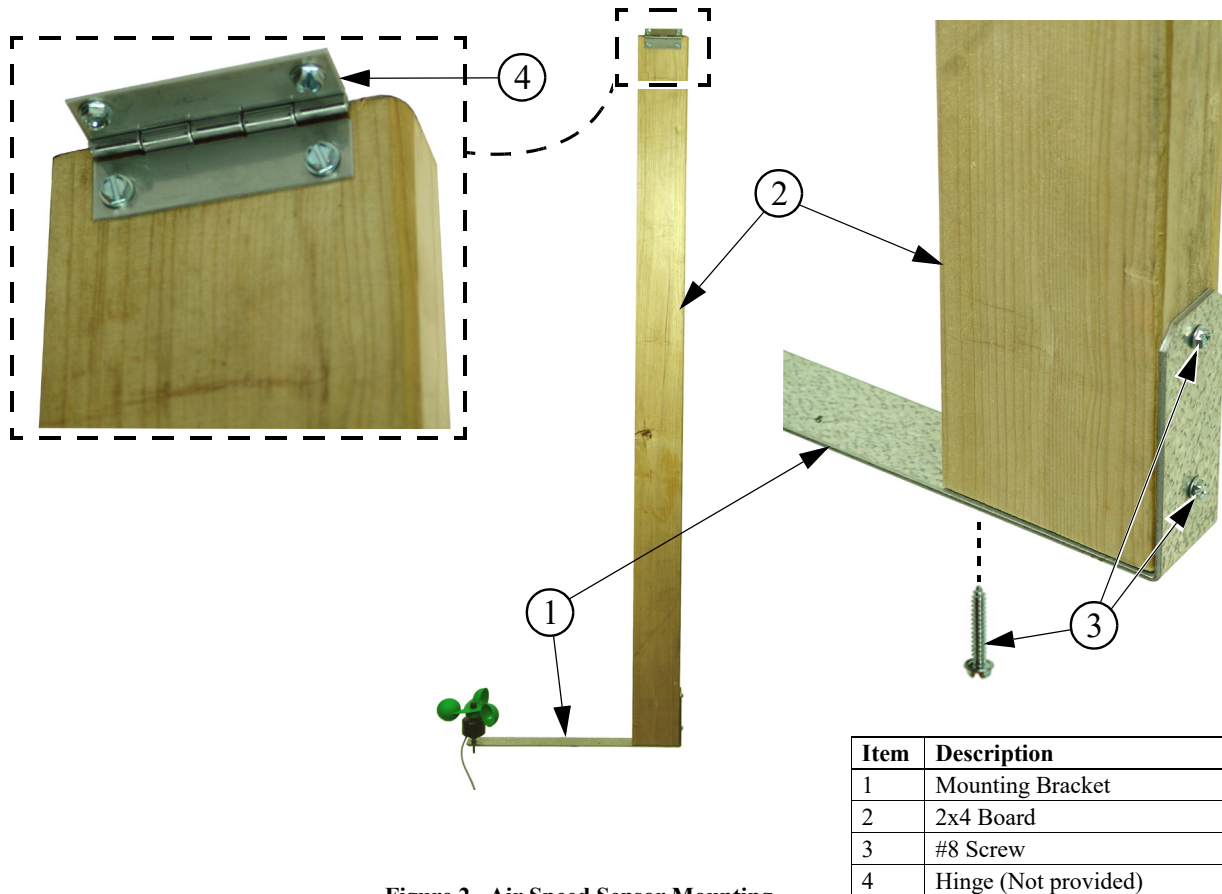

Figure 2. Air Speed Sensor Mounting
Attach the Mounting Bracket (**Item 1, Figure 2**) to a 2" x 4" board (**Item 2**) using (3) #8 screws (**Item 3**) provided. It is recommended that the board be connected to the ceiling using a Hinge (not provided). This is to allow the Sensor to be lifted out of the way during cleanout.